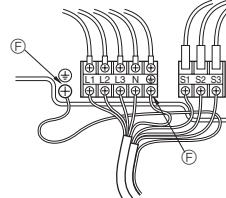

Fig. 6-2
6.1. Outdoor unit (Fig. 6-1, Fig. 6-2)
① Remove the service panel.
② Wire the cables referring to the Fig. 6-1 and the Fig. 6-2.